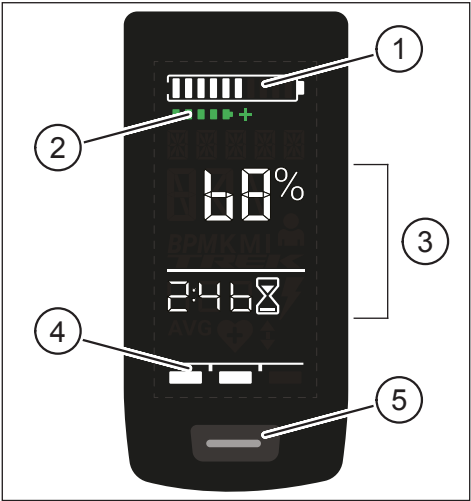
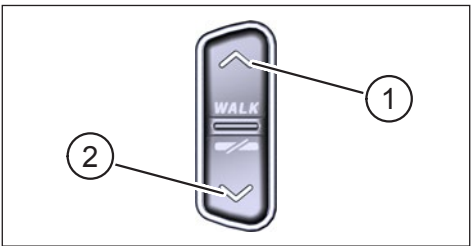

Fig. 1: Operation and indication components on display
Fig. 2: Operation on the remote
Pos. in Fig. 1	Description
Pos. in Fig. 2	Description
- ▶ Press and hold the button on the display (pos. 5 in Fig. 1) and the DOWN button on the remote (pos. 2 in Fig. 2) for at least 5 seconds.
- With a **short** press on the button on the display (pos. 5 in Fig. 1) you switch to the next screen view.
- Press the DOWN button on the remote control (pos. 2 in Fig. 2).